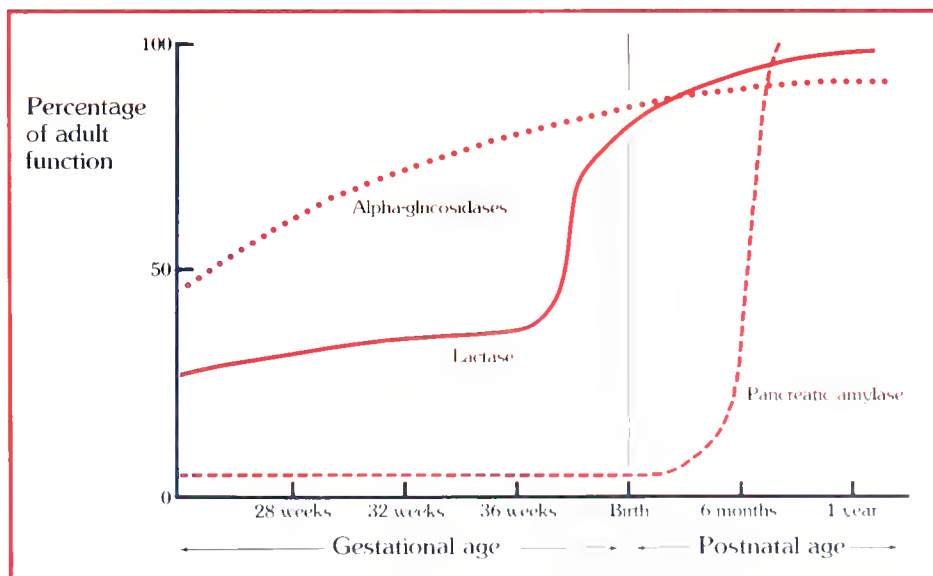

Fig. 2. Development of gastrointestinal enzymes in infants. Before enzymatic activity has matured, infants have difficulty digesting certain foods.
Fig. 2. The macrophage and what it does. Antigens in the bloodstream are collected and processed by lymph organs such as the spleen (1). These organs have an architecture that is ideal for processing many different antigens and quickly presenting them to B and T lymphocytes. Processing involves cells called phagocytes (phago = eating; cyte = cell). In lymph tissue, large phagocytes called macrophages contact lymphocytes and present the antigens (2). Control of the start of an immune response is not understood, but according to a theory now being tested (3), an antigen approaches the spleen, attaches to a macrophage, and is presented to a B cell. The response may or may not start, depending on the relative levels of cyclic nucleotides in the B cells. Cyclic (c) nucleotides are compounds that control cell division. If the compound cGMP is high (↑) relative to cAMP, the B cells divide, producing antibodies. Control of this process may be achieved by prostaglandins produced by the macrophage. Prostaglandin E (PGE) starts the response, and prostaglandin F (PGF) elevates the level of cGMP, thus increasing the response.
At present we are testing a theory that may explain how prostaglandins turn the activity of the watching macrophages on and off and if it can be influenced by dietary fatty acids (Fig. 2). We have already found that we can control prostaglandin production in the macrophages of experimental animals. We are now examining how production affects the ability of macrophages to respond to invading antigens.
Swallowing is present by 18 weeks and sucking by 28 to 30 weeks of gestation. However, the sphincter (valve) that closes the lower part of the esophagus may not function adequately until one year after birth. Digestive function matures from mid-gestation to one year. The ability of an infant to digest and utilize dietary nutrients parallels these developmental patterns (Fig. 2).
Chylomicrons carry triglycerides derived from the diet. VLDL carries triglycerides synthesized by the liver from carbohydrate and circulating fatty acids. The triglycerides of both chylomicrons and VLDL, after being transported to adipose (fat) tissue, heart, muscle, and other tissues, are hydrolyzed (split) by an enzyme called lipoprotein lipase, located on the blood capillaries at the tissue site. The fatty acids that are thus released are taken up by these tissues and are used as an energy source and as building materials for complex lipids. Any excess fatty acids are stored, primarily in adipose tissues, in the form of triglycerides. The continual removal of the triglyceride constituent from the core makes chylomicrons and VLDL progressively smaller. The resulting chylomicron remnants are disposed of principally by the liver (Fig. 2).
VLDL has a different fate. The removal of most of its triglycerides results in the formation of low density lipoprotein (LDL) (Fig. 2). This lipoprotein contains the highest levels of cholesterol and its esters (Table 1) and is transported to many tissues. Upon reaching the tissue site, specific receptors present on the plasma membranes of the cells recognize, take up, and degrade the LDL particles. The cholesterol component of LDL is primarily used as a structural element of cell membranes.
Fig. 2 Schematic representation of the changes in size or shape of various lipoprotein particles during lipid transport processes. LPL = lipoprotein lipase; LCAT = lecithin-cholesterol acyltransferase.
ally becomes spherical (Fig. 2). A portion of the cholesterol esters produced by the enzymatic reaction is transferred from HDL to VLDL and LDL.